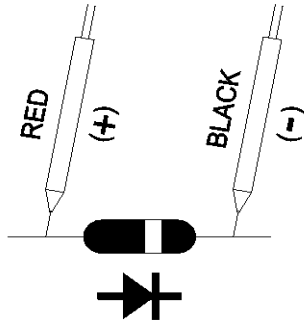

Fig.2
- 4) a. When connected with polarity as shown in Fig. 2, a forward current flow is established and the approx. Diode Forward Voltage (VF) value in volt will appears on the display reading. If the diode under test is defective, " 0.000 " or near " 0.000 " value ( short circuit ) " - - - - " ( open circuit ) will be displayed.